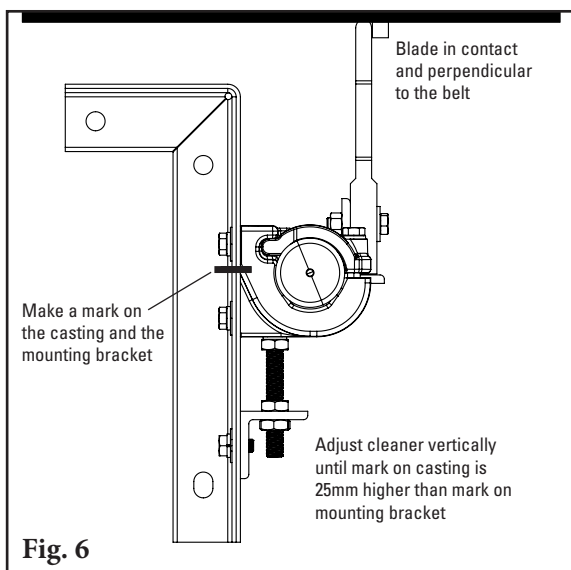

Fig. 6
6. **Set the tip angle and tension.** The fingers will be aligned perpendicular/right angle to the belt. Lock the pole in place by tightening the clamping block screws evenly. Adjust the cleaner vertically until making contact with the belt. Make a mark on the mounting bracket and clamping block on both tensioners. Adjust the cleaner 25mm vertically. Tighten all clamp block lock bolts. Double check that all bolts and nuts on the cleaner are tight (Fig. 6).